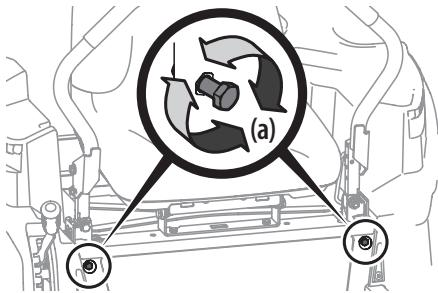

Figure 41
- Locate the lapbar drive control lever stop adjustment bolts (a) on the front of the seat frame. See Figure 41.
- To decrease the forward speed, turn the lapbar drive control lever stop adjustment bolts (a) clockwise. To increase the forward speed, turn the lapbar drive control lever stop adjustment bolts (a) counter-clockwise. Turn the lapbar drive control lever stop adjustment bolts (a) in the necessary direction 1/4-turn at a time. After turning the lapbar drive control lever stop adjustment bolts (a), check the adjustment by driving the tractor. See Figure 41.